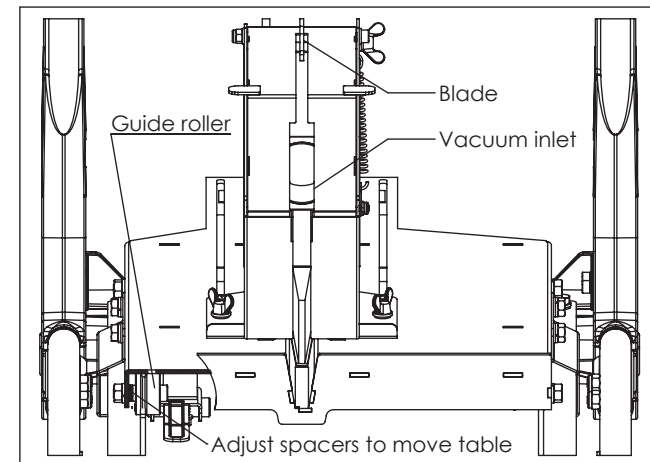

Figure 7: Using the vacuum table
3. Make sure the blade is almost in the middle of the vacuum inlet of the slide vacuum attachment as shown in Fig. 7. Adjust as necessary by adding or removing the spacers. M8 washers can be used as well.